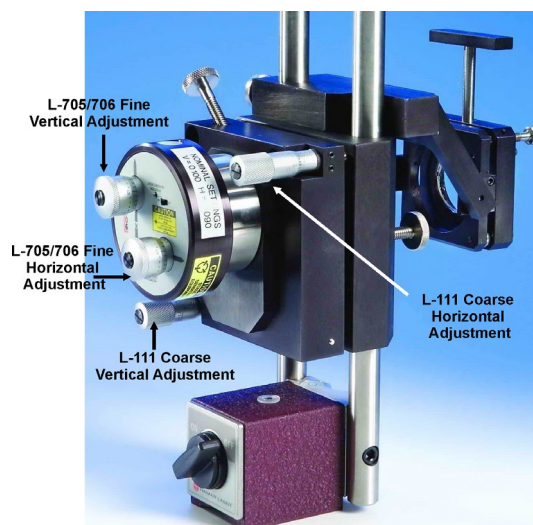
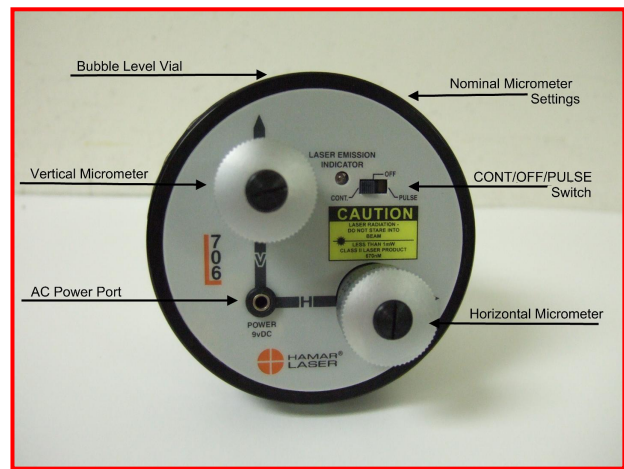

Figure 16 – L-706 Laser and L-102 Beam Translator on L-111 Laser Stand
Figure 18 – L-706 Laser
2. Insert the laser into the L-111 Stand with the level on the top, centered from left to right (see Figure 16).
22. Turn the L-111 Coarse *Angular* Pitch and Yaw adjustment knobs (see Figure 16) until the R-1307 reads close to the **V** and **H** *Laser Set Points*. When the adjustment becomes too difficult with the L-111, use the **V** and **H** angular adjustments on the L-706 (see Figure 18) until the values equal the **V** and **H** *Laser Set Points* from Step 21.